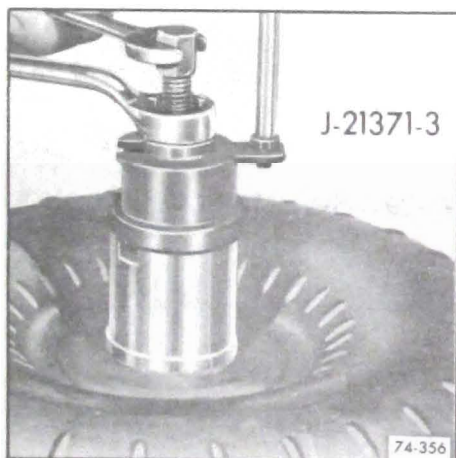

Figure 75-308
2. Install Tool J-21371-3 and tighten hex nut. See Figure 75-308.